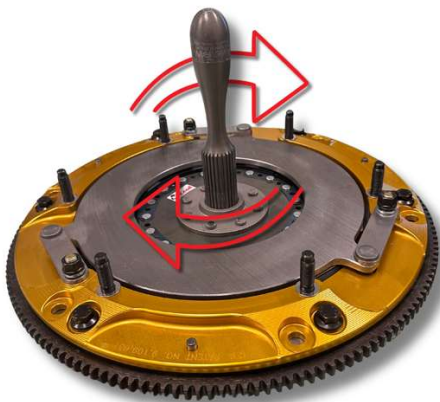

Figure 5
5. Place the floater and adapter ring on flywheel using either OEM or supplied pressure plate bolts. **Some kits are supplied with new bolts for attaching the ring to the flywheel. USE THESE BOLTS as they provide necessary clearance. Do NOT add any washers to any location if they were not present with the McLeod clutch assembly.** Torque these bolts to spec. Insert the pilot tool and rotate disc. The disc should be free and clear. See Figure 5.
- (1)-.025"/ (1) -.010" (.375" ID)
9. Check diaphragm finger height currently by placing a straight edge onto the pressure plate across the finger opening. All the fingers should be **below** the rear surface of the pressure plate. See Figure 5.